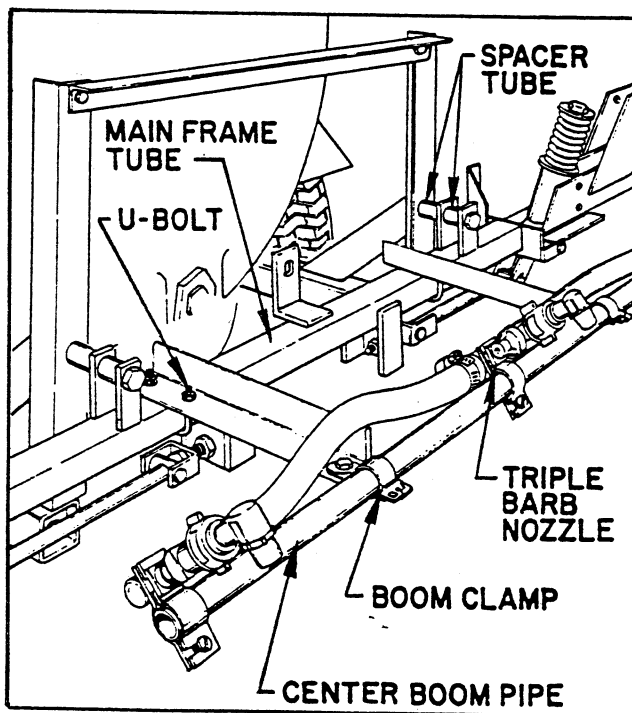

FIG. 5
■ Position the Spacer Tubes between the Boom Mount uprights and the lugs on the Main Frame Tube. Use two 1/2" x 4" hex hd cap screws and lock nuts to secure the Main Frame Tube to the uprights. See FIG. 5.
■ Position the two Center Boom Angles on the Main Frame Tube as shown in FIG. 5 and secure them to the Frame Tube with "U"-bolts and lock nuts.
■ Loosely attach the triple barb Nozzle Assembly in the approximate center of the Center Boom Pipe. For the most uniform spray coverage, position all Nozzle Assemblies at a 45° angle as shown in FIG. 5. Tighten clamp screw to secure the Nozzle to the Boom Pipe.